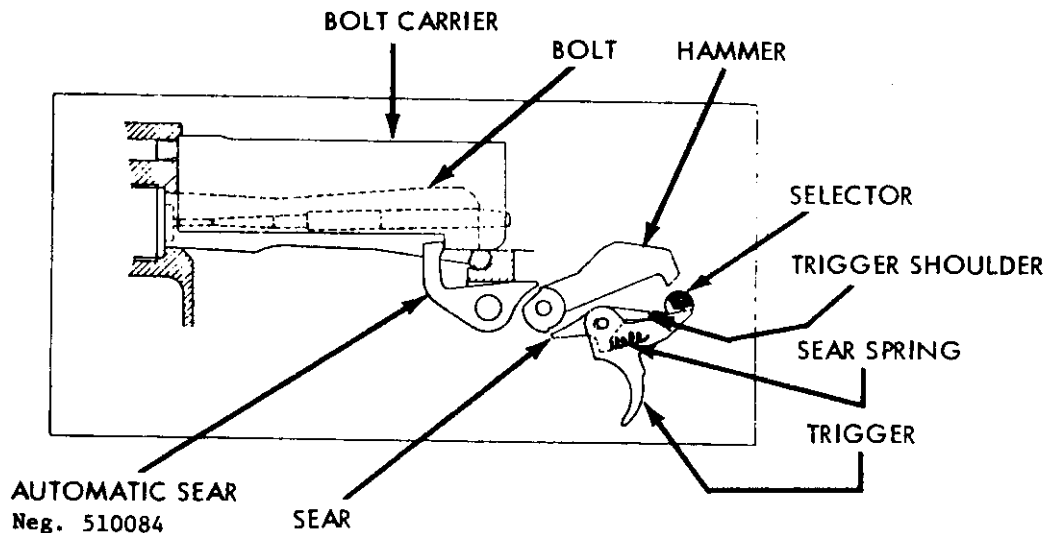

Figure 85. FN/FAL trigger.
e. The selector (fig 85) controls the type of fire by permitting different amounts of trigger travel according to the selector setting. When on safe, the solid shaft of the selector is over the rear of the trigger, and the trigger cannot be pulled to fire the rifle.
f. When the selector is set for semiautomatic fire, the trigger can be moved just enough for the sear (fig 85), which pivots about the trigger pin and is moved by the trigger shoulder, to disengage from the hammer. The hammer swings forward and the sear, under pressure of the sear spring (fig 85), moves forward and upward, against the bottom of the hammer. When the bolt carrier moves forward, the hammer, under the force of the hammer spring, starts to swing forward. The sear snaps into the sear notch of the hammer; this then forces the sear to the rear, against the shoulder, and holds the hammer cocked. To release the hammer, the trigger must be released; the hammer then forces the sear to the rear, over the shoulder. If the trigger is pressed again, it will move to sear to release the hammer.
then held cocked only by the automatic sear (fig 85). This sear is tripped by the bolt carrier during its last bit of forward travel and releases the hammer to fire another shot. This action, which occurs each time the bolt carrier goes forward, results in automatic fire. The release of the trigger causes the hammer to be caught by the sear in the same manner as in paragraph f above.
(1) The automatic sear (fig 85) will not be tripped, and it will continue to hold the hammer cocked, even if the trigger is pressed.
(2) The firing pin will not protrude through the rear wall of the carrier and cannot be struck by the hammer.